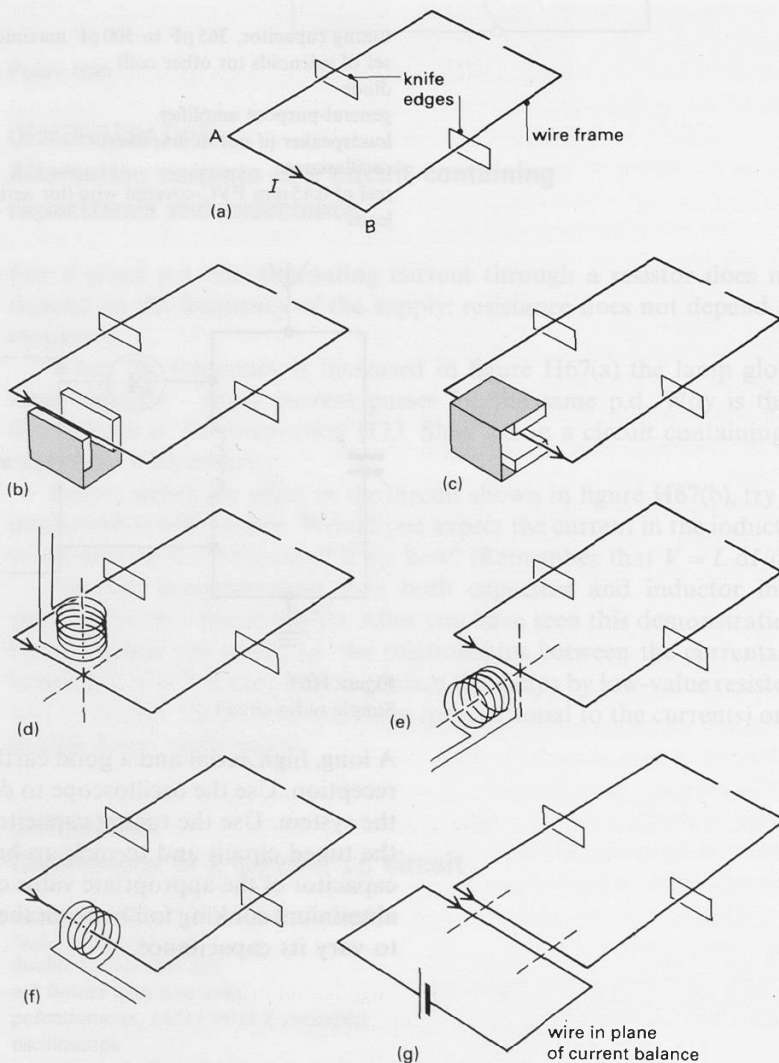

Figure H70
- 1(I) On a graph the axes are often labelled x and y .
- 2(L) Figure H70(a) shows a form of 'current balance' which consists of a pivoted wire frame resting on knife edges through which current enters the frame. The balance is tilted by a vertical force on the wire AB.
The force on a current is at right angles to the current and to the direction of the B -field. Figures H70(b) to (g) show a series of attempts to tilt a current balance using a magnetic force. Which of them will produce a force on the wire which will tilt the balance?